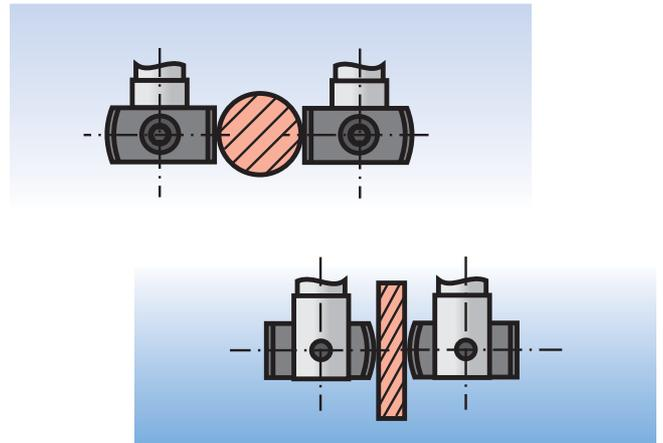

Fig. 5: Round specimen with straight knife edges, and flat specimen with convex ones
The knife edges are also easily replaceable. They consist of straight and convex sides. They can be simply rotated so that the knife edges will always be in single-point contact to the specimen (Flat or round specimen, see fig. 5), thus ensuring extremely precise measurements.
- The geometrical shape of the knife edges enables their use with both round and flat specimen (See fig. 5).